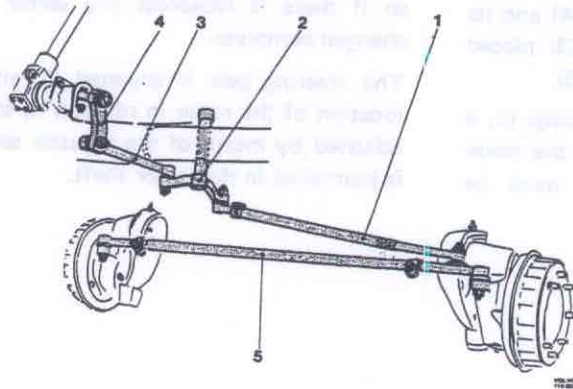

Fig. 64-2. Steering rods with aux. steering arm
The front wheel angles are measured with the instruments intended for this purpose. The only wheel angle which can be adjusted is the toe-in. It should be within the distance 0–3 mm (0–0.12"). Toe-in is adjusted on the lower steering rod (5, Fig. 64-2). The measuring is made in the middle of the wear tread and at hub height. If any of the other angles are faulty, examine which part is deformed and replace accordingly.
The steering gear has three steering rods, a lower steering rod (5, Fig. 64-2), an upper steering rod (1) and a tie rod (3). The toe-in is adjusted on the lower steering rod. All steering joints are lubricated-for-life and are to be replaced when loose.